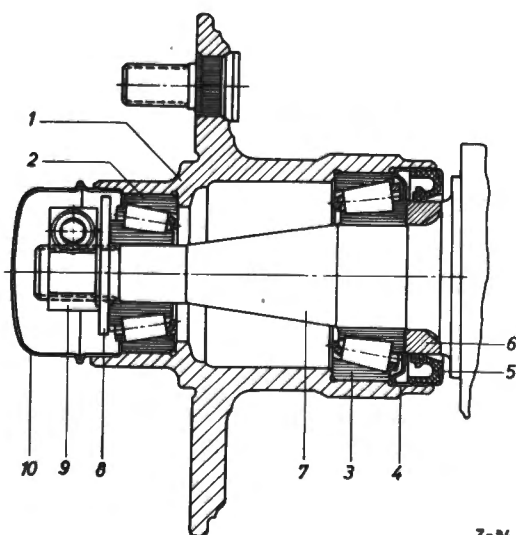

Fig. 33-5/4
Note: In the case of the 1st version front wheel bearings (annular taper roller bearing with millimeter measurements) a spacer ring (6) is pressed on the wheel spindle and its contact surface for the seal (5) is provided with a reverse thread pattern (Fig. 33-5/4).